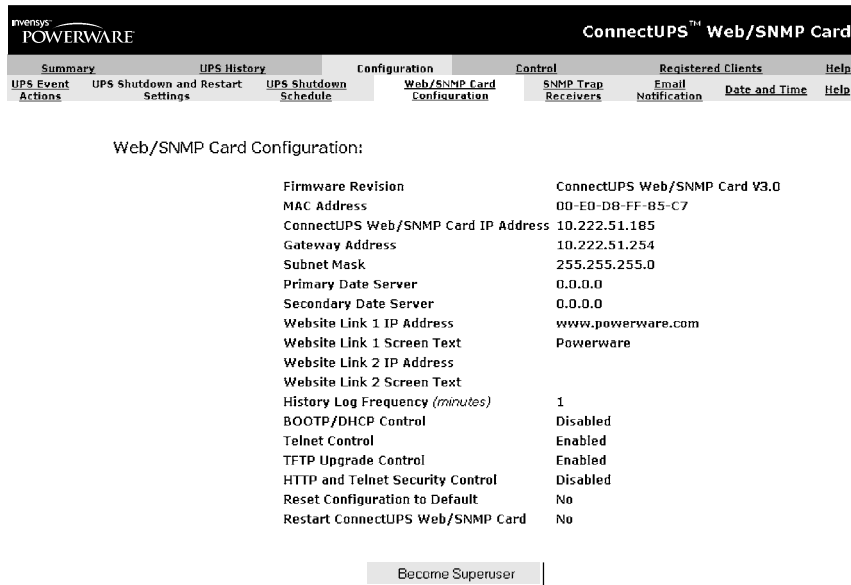

Figure 19. Sample ConnectUPS Web/SNMP Card Configuration Page
1. Select **Configuration** from the menu at the top of the home page, then **Web/SNMP Card Configuration** to set the ConnectUPS Web/SNMP Card parameters (see Figure 19).